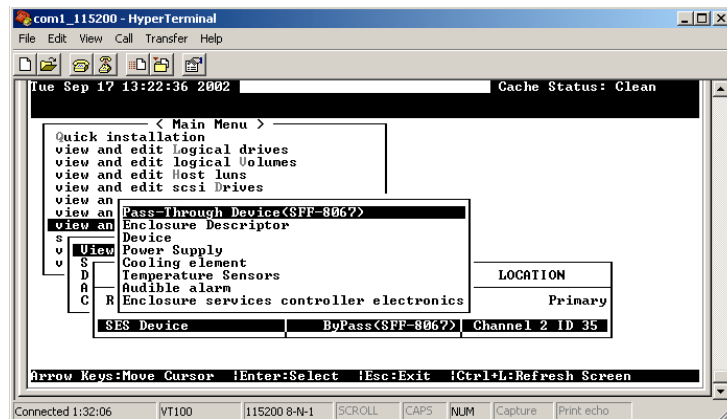

Figure 3-6: Select SES Device Option
**Step 2.** From the menu shown above, use the arrow key to scroll down the menu and select the “**SES Device**” option. When you have selected this option the screen shown in *Figure 3-6* will appear: